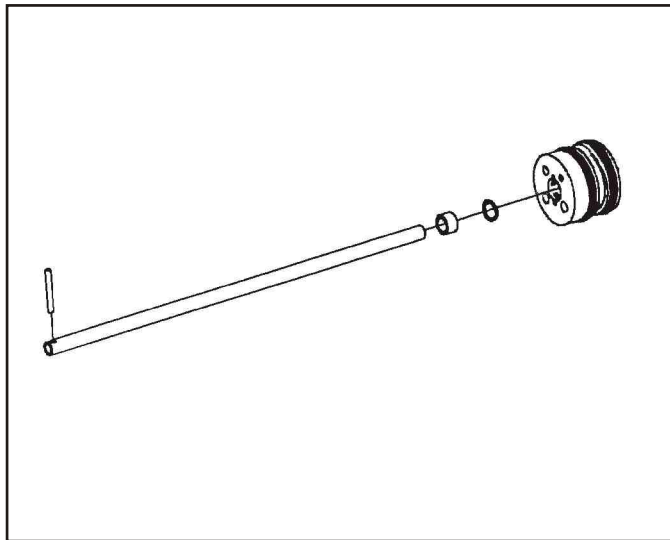

Figure 168
13. Install the roll pin in the 2nd clutch feed pipe and slide the spacer over the tube and up against the roll pin. (See Figure 168).
14. Carefully slide a new O ring onto the tube and push it down against the spacer (See Figure 168).
15. Slide the tube through the 1st clutch flange and seat the roll pin into the slots provided (See Figure 168).